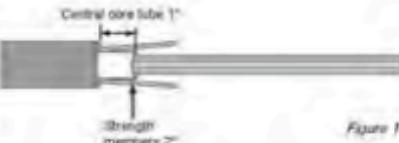

Figure 11
8. Ring cut the core tube 1" from the sheath ring cut and remove core tube. Clean exposed fibers or ribbon with approved degreaser. (Fig. 11)